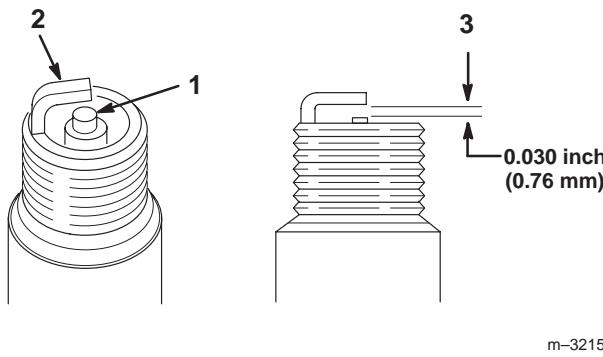

Figure 25
1. Look at the center of the spark plug (Fig. 25). If you see light brown or gray on the insulator, the engine is operating properly. A black coating on the insulator usually means the air cleaner is dirty.
2. Check the gap between the center and side electrodes (Fig. 25). Bend the side electrode (Fig. 25) if the gap is not correct.